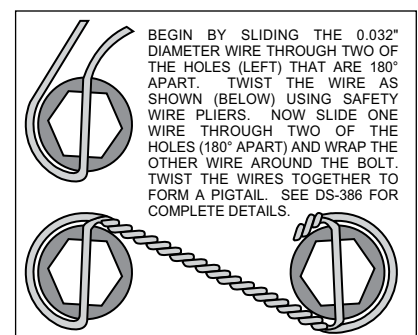

Figure 3. Safety Wire Diagram
- The caliper mount bracket assembly (1) should be installed first with clean, dry threads on the mounting bolts. Install the bracket from the rear side of the spindle by sliding the upper mounting bolt (4) through flat washer (5) and the upright into the upper bolt hole on the bracket. Attach the lower portion of the bracket by sliding bolt (6) through flat washer (7) and into the lower hole on the backside of the spindle. The bracket must tighten squarely against the inboard side of the spindle face plate/upright. Inspect for interference from casting irregularities, machining ridges, burrs, etc. If everything fits correctly, then remove the mounting bolts (4 and 6), coat threads with red *Loctite*® 271 and reinstall. Torque bolt (4) to 65 ft-lbs., and bolt (6) to 42 ft-lbs.
- Install wheel studs (8) into the hub (9). Torque to 77 ft-lb. **NOTE:** There are two lug patterns of five holes each in the hub (5 x 4.50 and 5 x 4.75). Make sure of the correct hole pattern for the wheel application before installing the studs into the hub.
- Pack the large inner bearing cone (10) with high temperature disc brake bearing grease (available from your local auto parts store) and install into the backside of the hub (9).
- Install the grease seal (11) into the backside of the hub (9).
- Pack the small outer bearing cone (17) with high temperature disc brake bearing grease and install into front side of the hub (9). Slide the hub assembly (9, 10, 11 and 17) onto the spindle. Secure using spindle washer (18), stock adjusting nut, and nut locking device. Adjust wheel bearing pre-load per Original Equipment Manufacturer (OEM) specifications.
- Install the O-ring (20) and the dust cap (19) into the hub (5). **NOTE:** O-ring (20) friction will not allow cap (19) to unscrew on its own.
- With the larger I.D. side of the rotor (12) facing away from the hat (13), bolt rotor (12) to hat (13) through the backside of the rotor using washers (14) and bolts (15). Apply red *Loctite*® 271 to the bolt threads and torque to 155 in-lb using a criss-cross pattern. For an added measure of security, the bolts may be safety wired using standard 0.032 inch diameter stainless steel safety wire as shown in Figure 3. Please refer to Wilwood's data sheet DS-386 (available at www.wilwood.com/Pdf/DataSheets/ds386.pdf) for complete safety wire installation instructions.